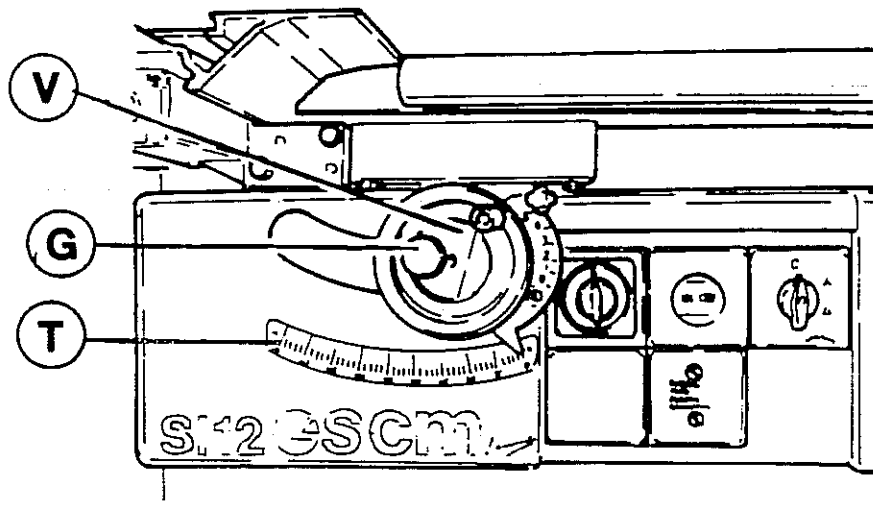

Fig.22
Turn handwheel (V) clockwise to raise the blade: the saw blade height is right when it exceeds the workpiece thickness 1-1.5 cm. After the adjustment, lock handwheel (V) by knob (G fig.22)